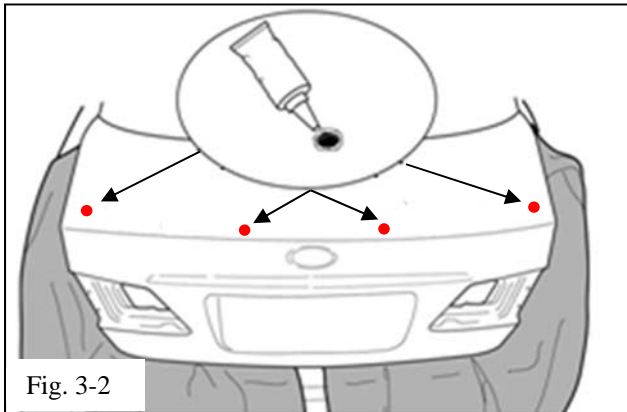

Fig. 3-2
- (c) After cleaning, carefully apply 3M Ultra Pro Body Sealant to the four holes on the top surface of the trunk lid (Fig 3-2).